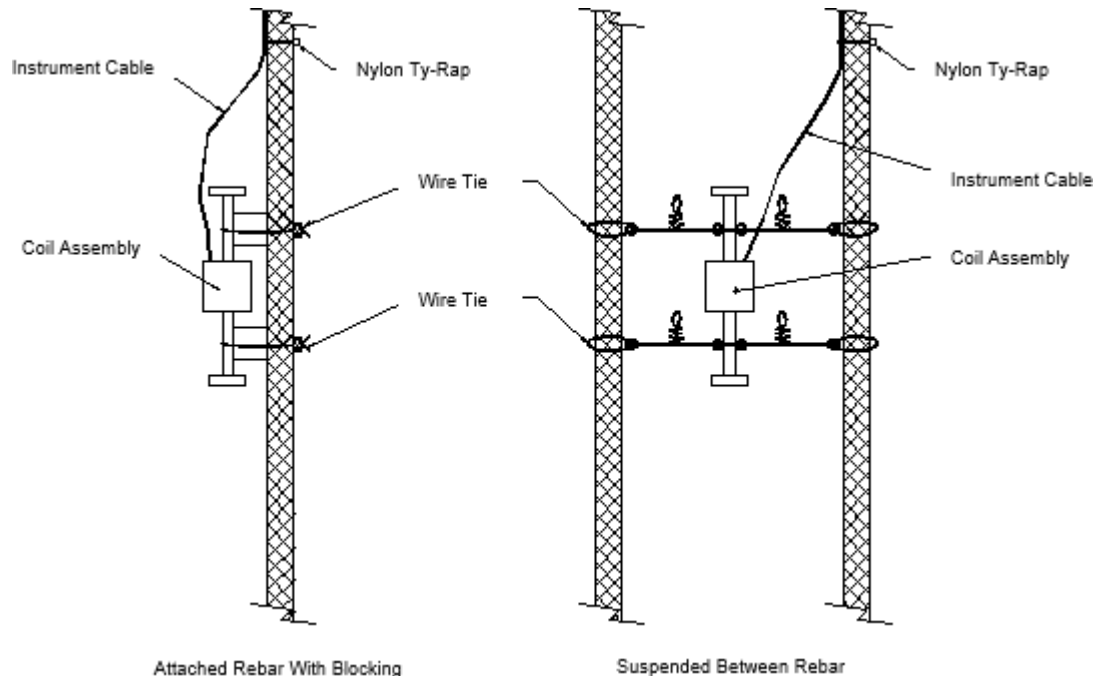

Figure 2: Attaching VWSG-E Strain Gauges to Rebar
1. Wrap a layer of self-vulcanizing rubber tape around the Strain Gauge at the two locations where the gauge will be mounted to the rebar (refer to Figure 2).
1. Wrap a layer of self-vulcanizing rubber tape around the Strain Gauge at the two locations where the gauge will be mounted to the rebar mat (refer to Figure 2).